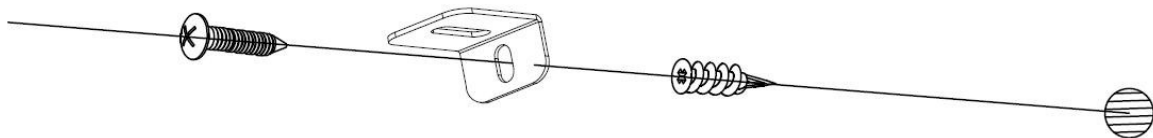

Fig 4-3
C. Install the plastic anchor (B) into the drywall, then install the screw A (supplied) into the hole of the L-bracket into the wall anchor to secure the fireplace from coming off the hooks. (Fig 4-3)